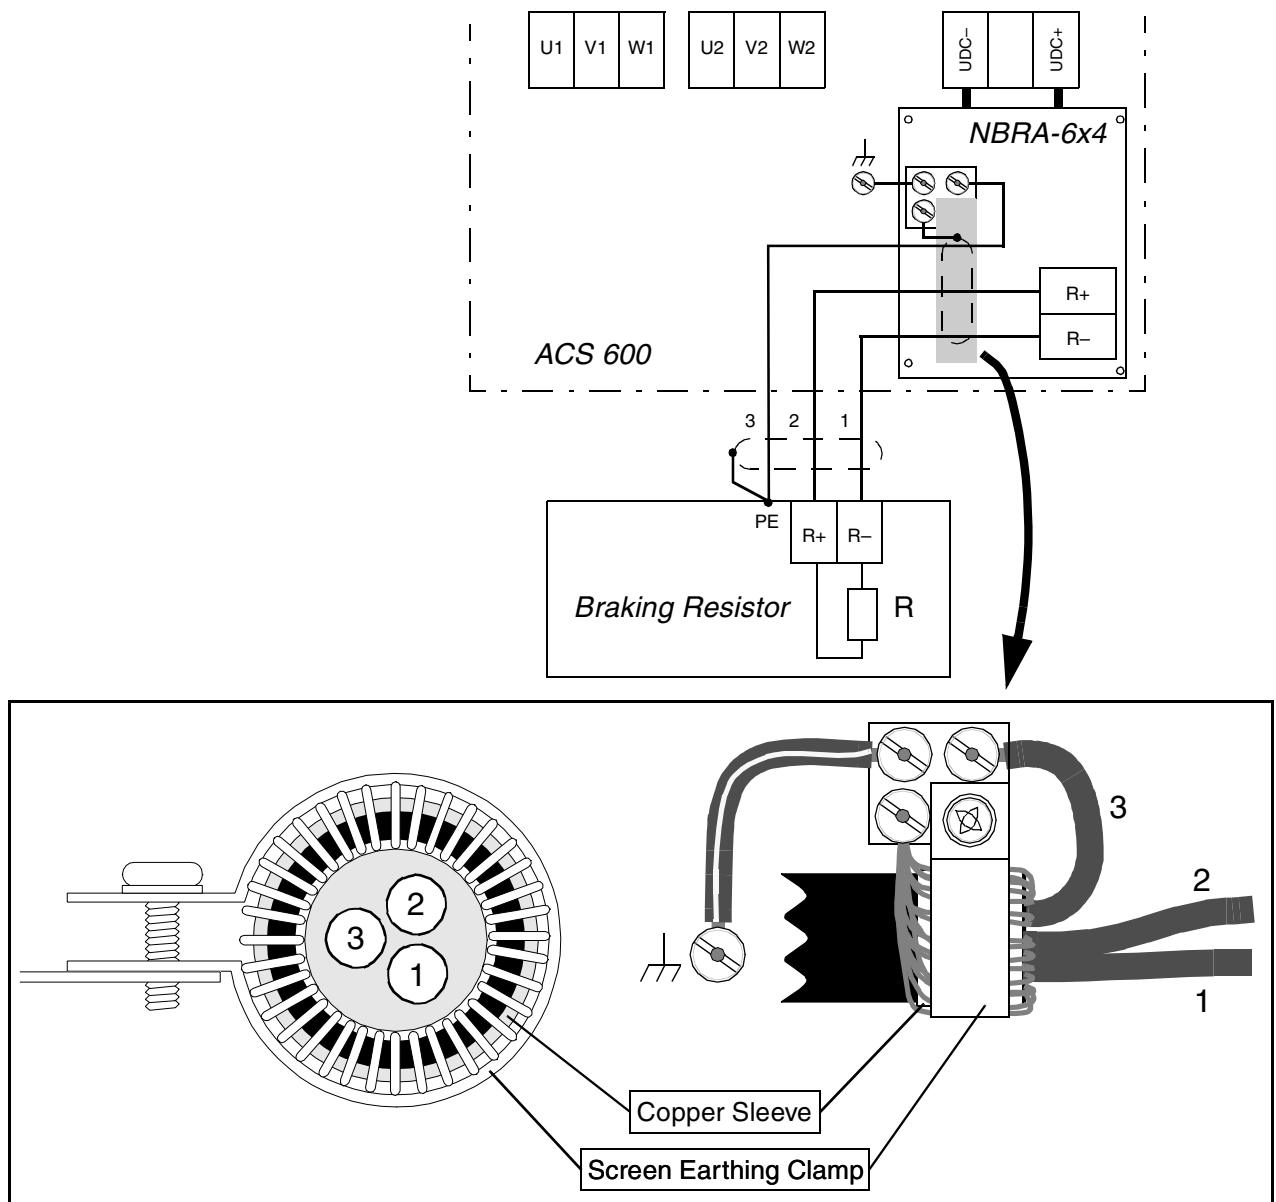

Figure 4-4 **Top:** NBRA-654/664 power connections.
Note: The braking chopper must be earthed to ACS 600 chassis by connecting a separate wire between a chopper earthing terminal and an ACS 600 chassis terminal (see Figure 4-4 on previous page).
- Slip the copper sleeve (inserted into the earthing clamp at the factory) onto the outermost insulation of the cable so that insulation and sleeve edges are aligned (see Figure 4-4).
- Twist the screen wires together and connect them to one of the earthing terminal posts on the chopper as shown in Figure 4-4. Tighten the terminal to 1 Nm.
- Connect conductor no. 3 (if present) to one of the earthing terminal posts on the chopper as shown in Figure 4-4.